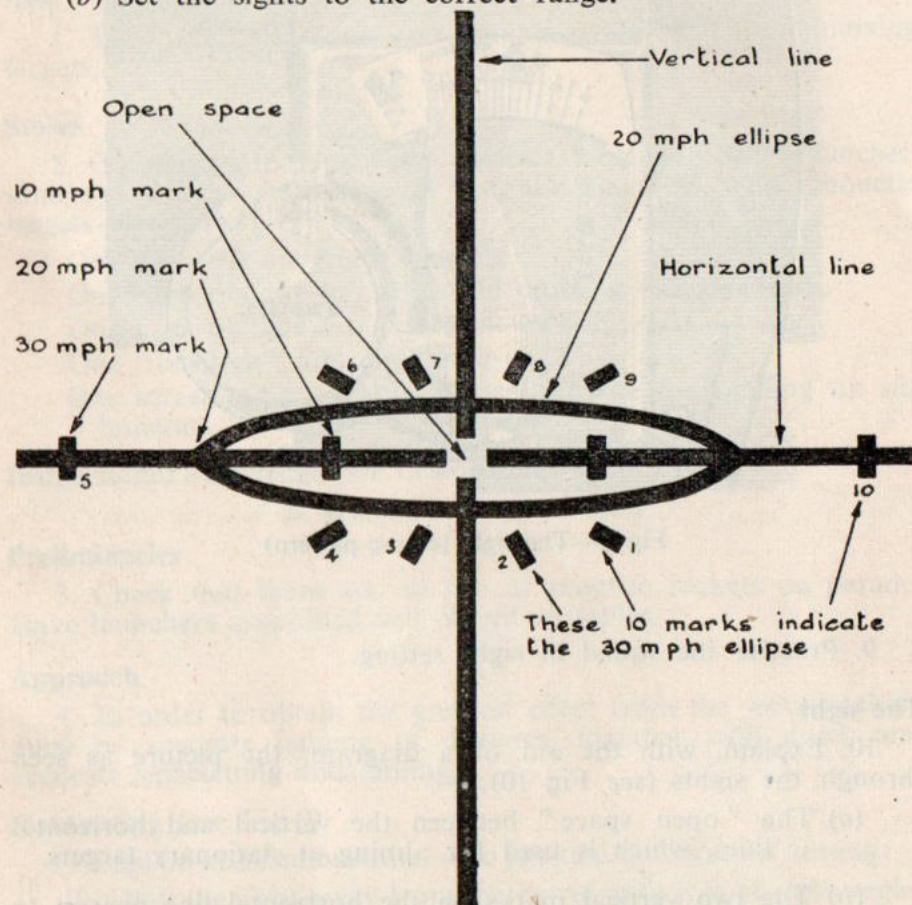

Fig 10.—The sight pattern (ellipse pattern)
10. Explain, with the aid of a diagram, the picture as seen through the sights (see Fig 10):—